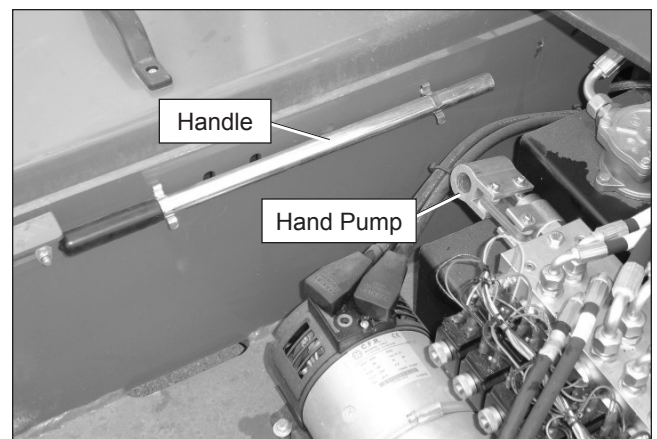

Figure 8.12 – Control Valve Under Front Chassis Cover
3. Insert the handle (refer to Figure 8.12) into the hand pump holder and operate the pump to verify that the tip boom retracts.